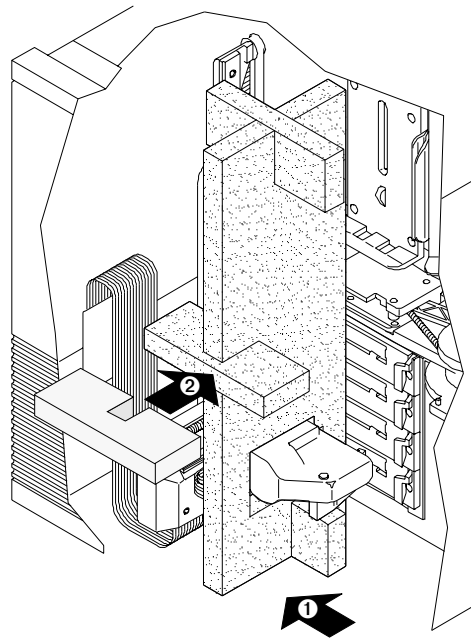

Figure 6-2 Adjusting the packing foam
4. Slide the foam assembly to the left (arrow 1 in Figure 6-2) so the CHM fits in the pocket as shown.
5. Fit the front cross piece to the vertical piece (arrow 2 in Figure 6-2).